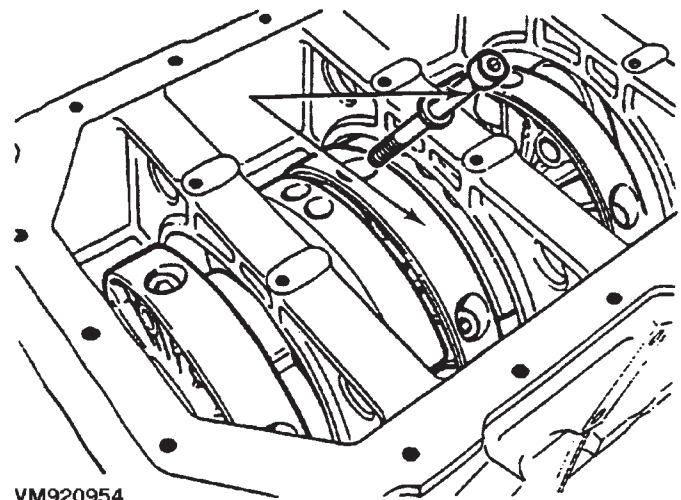

Fig. 68 Crankshaft Support Locator Bolts
- (17) Remove the main bearing oil feed and crankshaft support locators from block.
- (18) Remove the flywheel and adaptor plate from engine block.
- (19) Remove the thrust bearings from rear main bearing carrier.
- (20) Slide the crankshaft and bearing carriers rearward to rear of block. If you encounter difficulty in removing the complete assembly as previously described, slide the assembly rearward sufficiently to gain access to the main bearing carrier bolts. Mark the carriers for assembly and remove the bolts, two for each carrier (Fig. 68).